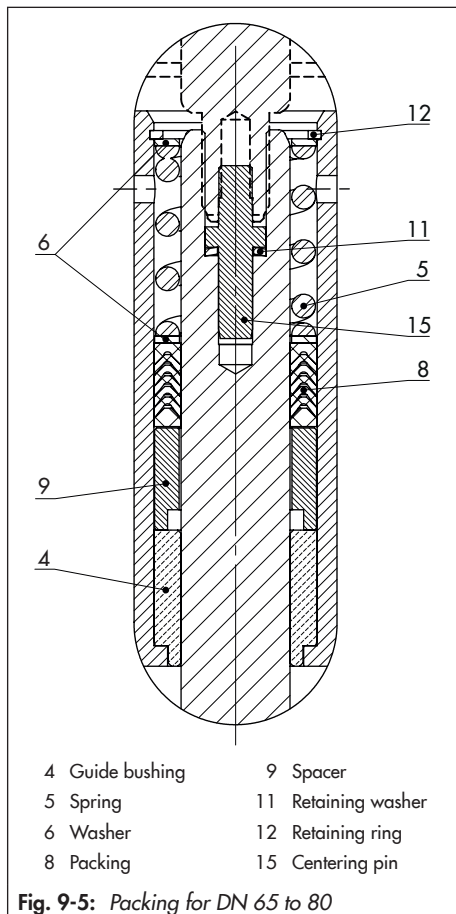

Fig. 9-5: Packing for DN 65 to 80
1. Undo the screws (10) on the valve bonnet (7).
2. Lift the actuator, flange (14), valve bonnet (7) and plug with plug stem (3) off the body (1).
4. Unscrew the valve bonnet (7) from the actuator base.
5. Unscrew the plug stem (3) from the actuator stem.
6. Pull the plug with plug stem (3) out of the valve bonnet (7).
9. Apply a suitable lubricant to all the packing parts and to the plug stem (3).
10. Make sure that the guide bushing (4) and spacer (9) are seated correctly in the valve bonnet (7).
11. Insert the packing parts into the packing chamber. Make sure to observe the proper order (see Fig. 9-3 or Fig. 9-5).
12. Place the retaining ring (12) on the packing parts.
13. Use a suitable tool to press the packing together until the retaining ring (12) is seated in the groove of the valve bonnet (7).
13. Insert the packing parts into the packing chamber. Make sure to observe the proper order (see Fig. 9-3 or Fig. 9-5).
14. Place the retaining ring (12) on the packing parts.
15. Use a suitable tool to press the packing together until the retaining ring (12) is seated in the groove of the valve bonnet (7).